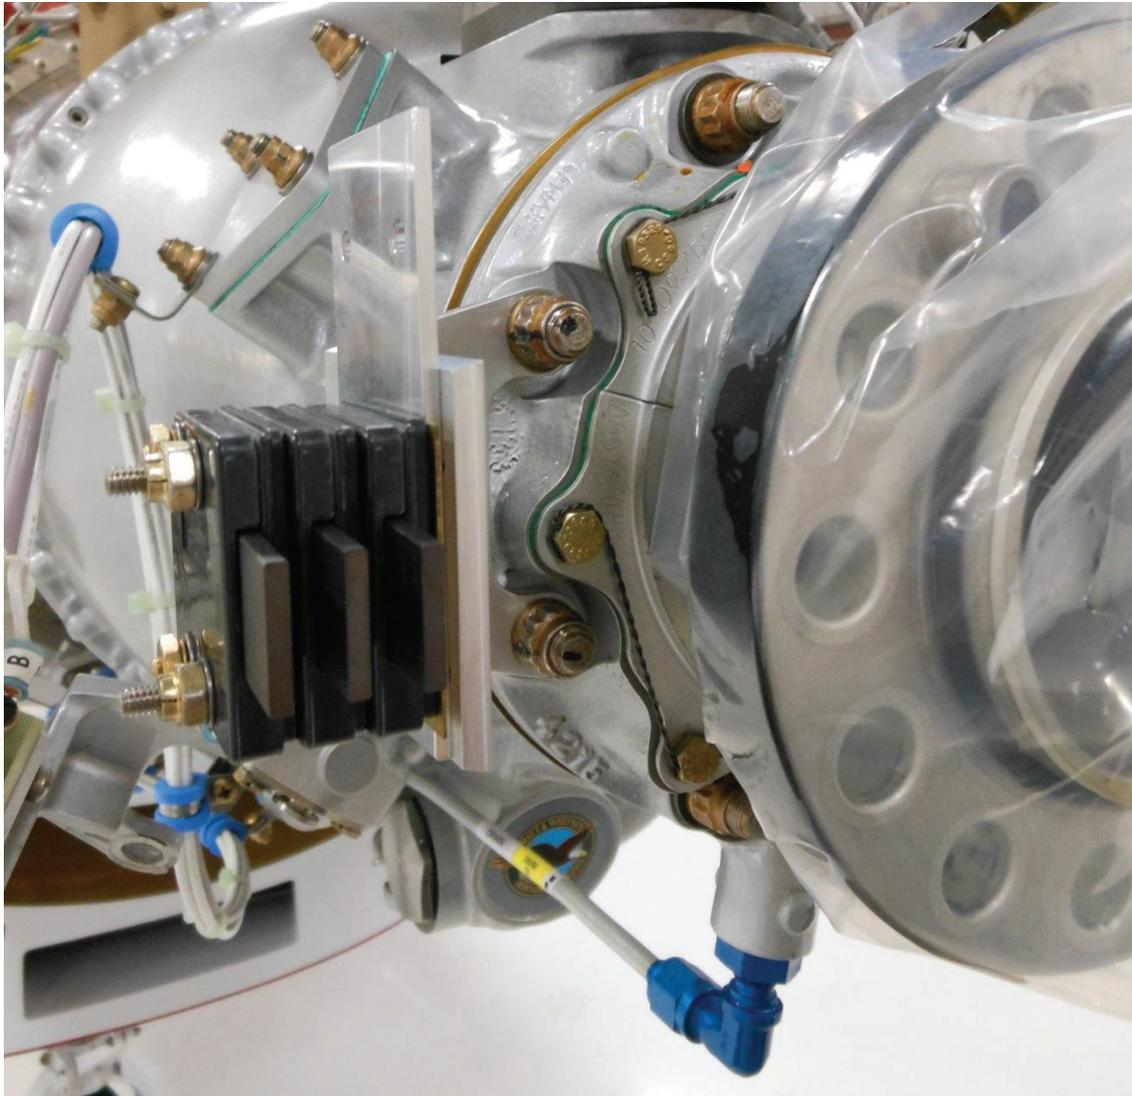

Figure 4
- e) Install 105915 brush block bracket as shown in Figure 4. Torque nuts holding the bracket to engine gearbox using standard torque values provided in the Pratt & Whitney Maintenance Manual.